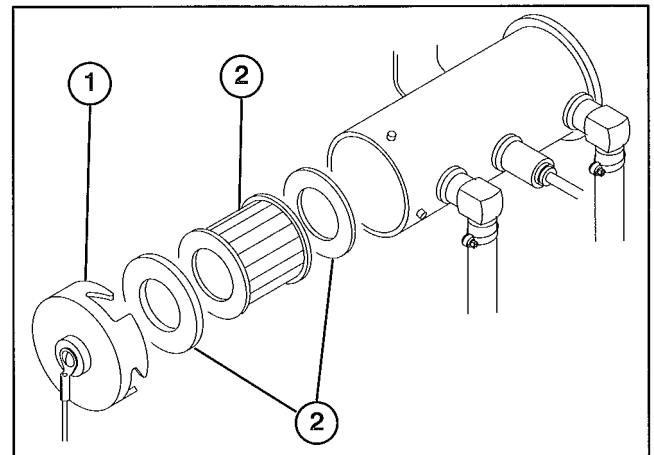

Figure 42
- Place a drain pan under fuel pump and remove cover from fuel pump (Fig. 42). Take care not to damage wire while removing cover.
- Pull filter out of pump body (Fig. 42).
8. Clean cover of any residue (Fig. 42), insert filter into body and install cover.